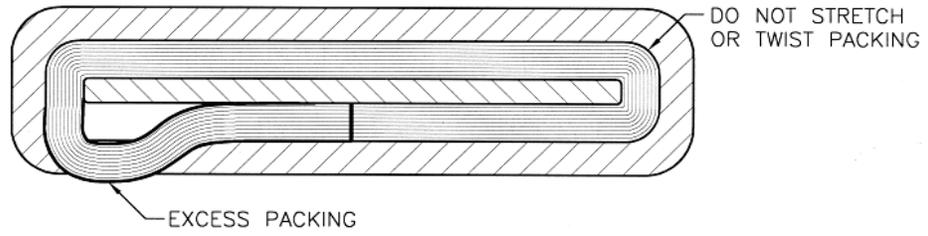

Figure 3
5. When the packing reaches the second end of the stuffing box, insert the free end of the packing as shown in Figure 3, leaving an excess loop of packing.